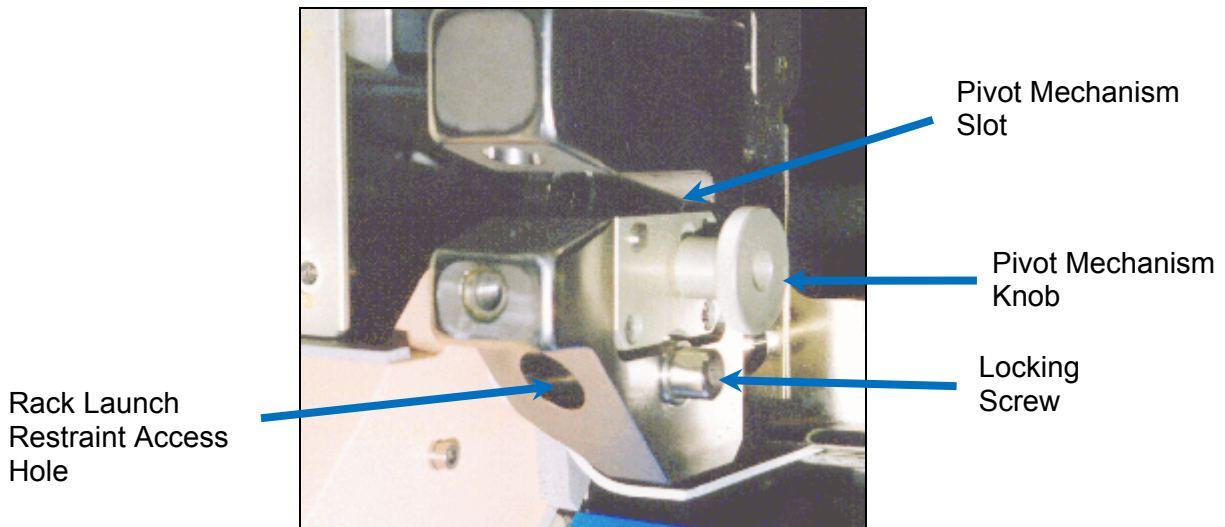

Figure 12.- Rack Launch Restraint, Lower Left, Typical.
- 9.1 Loosen both left, right Rack Pivot Mechanism Knobs one turn, then snug in unlatched, down position. Refer to Figure 12.